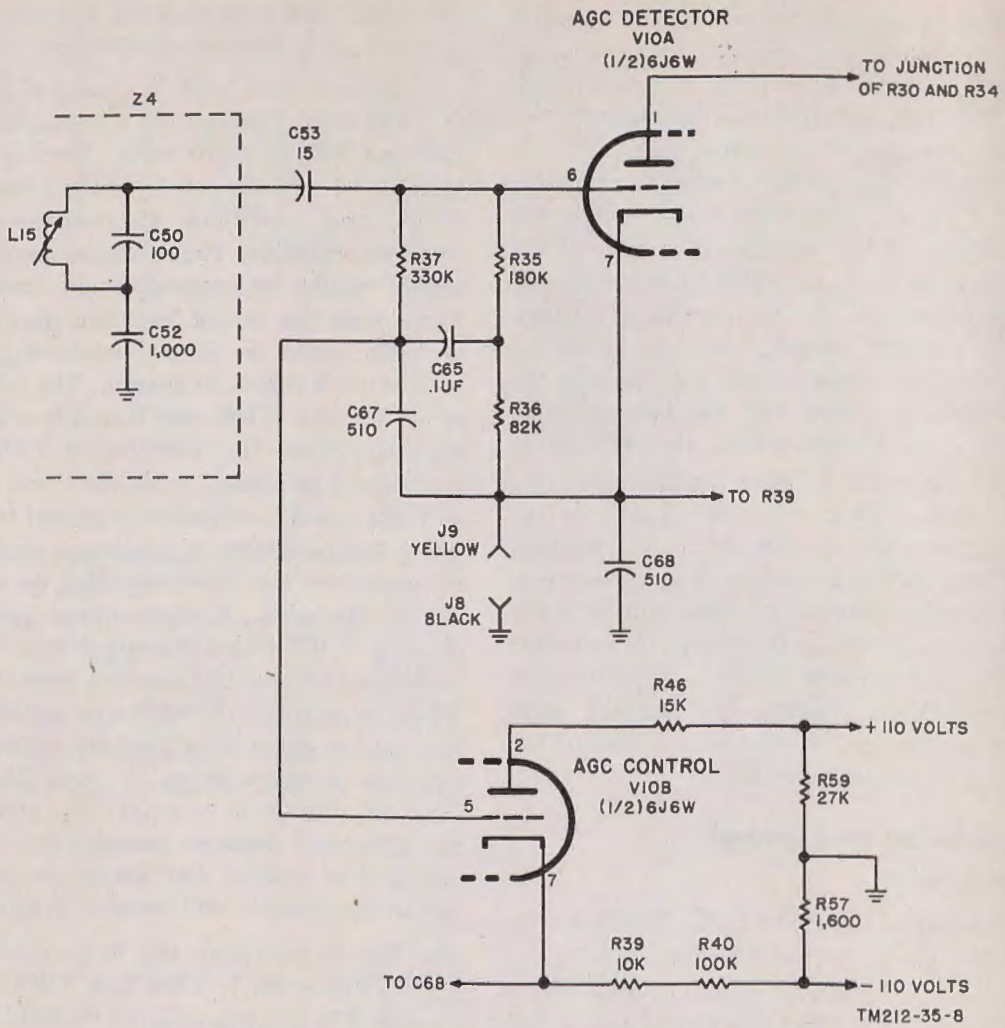

Figure 8. Agc detector V10A and agc control V10B.
(fig. 8 and 9)
a. The grid and cathode (pin 6 and pin 7) of V10A (fig. 8) operate as an agc detector diode which provides a dc voltage that is proportional to the received signal strength. RF current flows in the following manner; from the bottom of L15 and C50 to ground through C52 (fig. 8), from ground through C68 to the cathode of the agc diode (pin 7), through the diode, through C53, back to the other side of L15 and C50. The agc detector conducts only when the top of L15 and C50 is positive in respect to the bottom of L15 and C50. The network composed of R35, R37, C65 and C67 is a filter designed to remove the 5-mc RF ripple and produce a steady dc voltage across C67. The magnitude of this voltage is